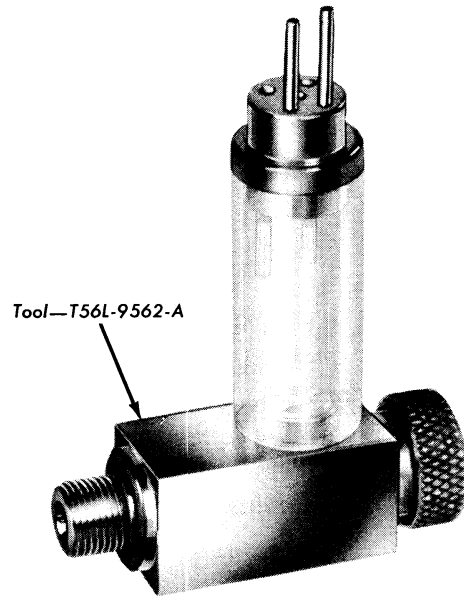

Fig. 39—Fuel Level Gauge—Dual Carburetor
(2) **DUAL CARBURETOR.** To check the fuel level, install the gauge shown in fig. 39 in one of the main jet plug holes. Operate the engine at idle speed. Proper fuel level is indicated by the “LO” pins in the gauge cap. If the fuel level is incorrect, remove the carburetor air horn and set the float level.